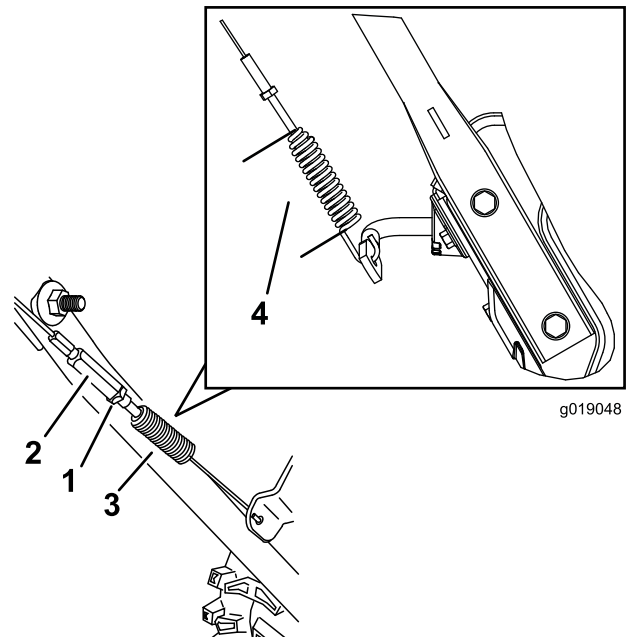

Figure 36
4. Tighten the jam nut (Figure 36), ensuring there is slight tension on the cable.